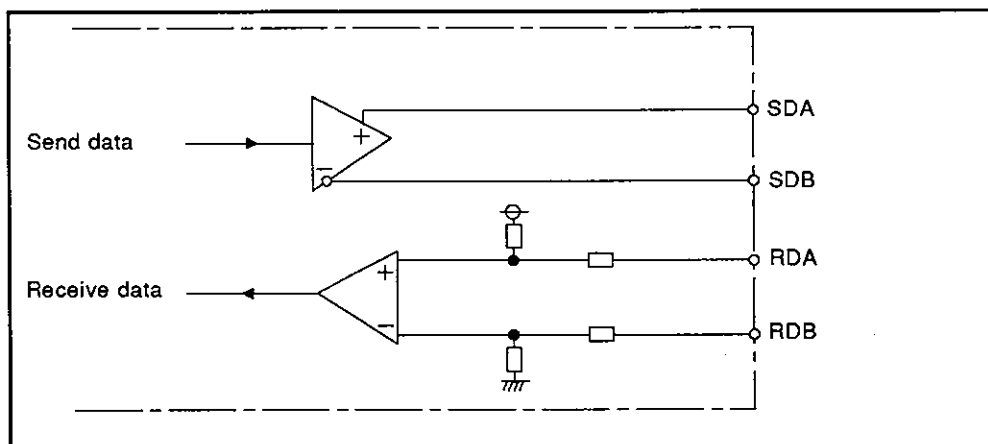

Fig. 12.2 Function Block Diagram of the RS-422/485 Interface
- (2) Fig. 12.2 shows a function block diagram of the RS-422/485 interface.